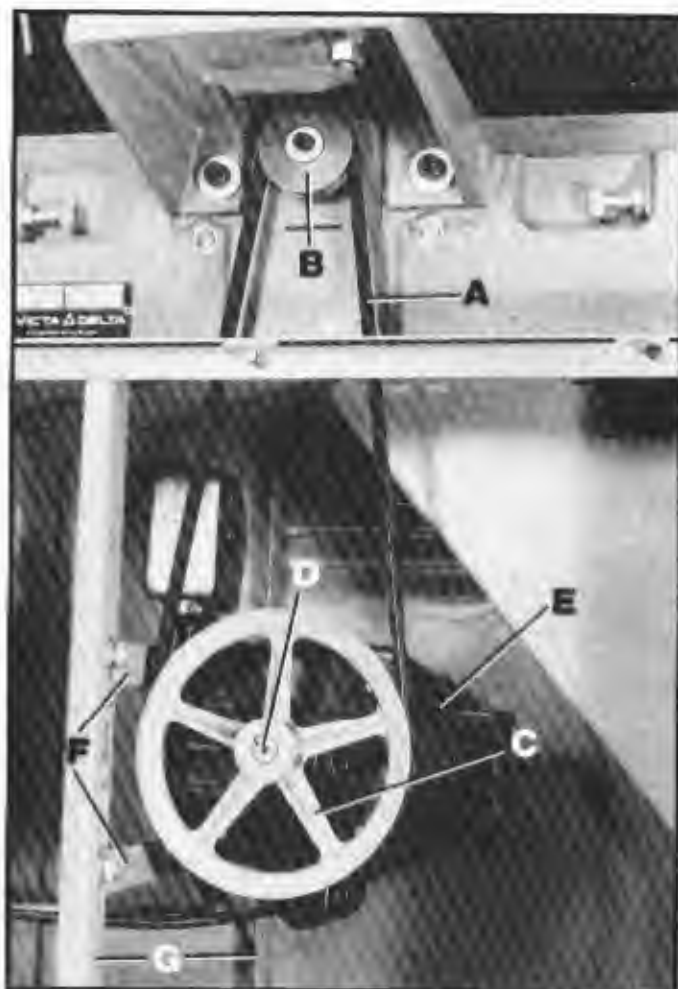

Fig. 11
1. Place the belt (A) Fig. 11, around the cutterhead pulley (B), down thru the hole in the jointer stand and around the motor pulley (C) as shown.
2. Using a straight edge, make certain the motor pulley (C) Fig. 11, is aligned with the cutterhead pulley (B).
3. If an adjustment is necessary, the motor pulley (C) Fig. 11, can be moved in or out on the motor shaft (D), or the motor (E) can be moved along the mounting bars (F).
Correct belt tension is obtained when there is approximately 1" deflection in the center span of the belt (A) Fig. 11, using light finger pressure. If an adjustment is necessary, it can be made by the following methods:
1. Raising or lowering the motor on the motor mounting bars (F) Fig. 11.
2. If a major adjustment is needed, the motor mounting bars (F) Fig. 11, can be repositioned on the two posts (G).